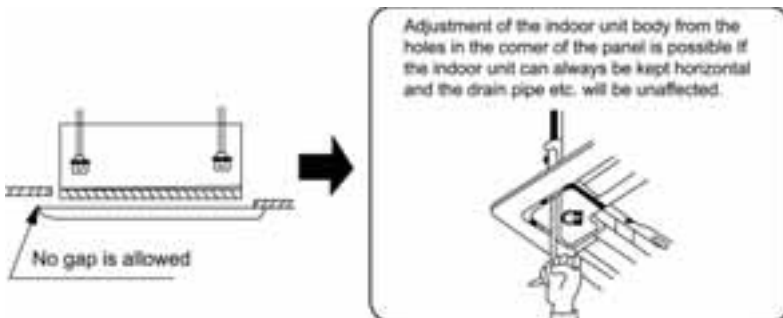

Fig. 4.33
- (3). If gap still exists between ceiling and decorative panel after tightening the screws, readjust the height of the indoor unit (Fig. 4.33).